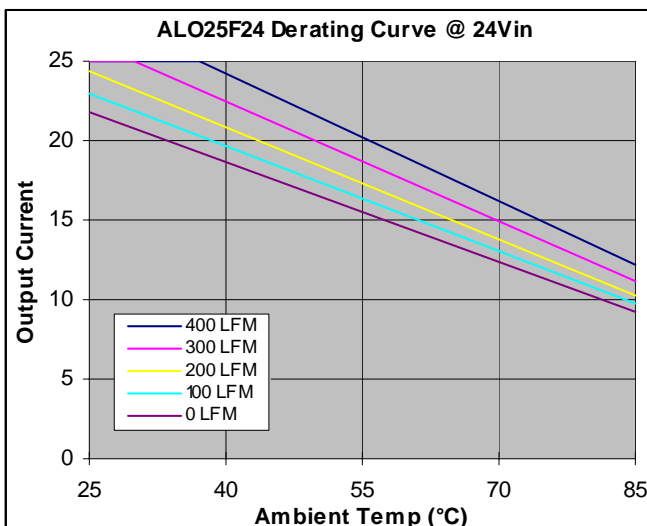

Figure 11. Output Current vs. Temperature at $V_{IN}=24\text{V}$,
4. Output power derating applies at elevated temperature. Refer to Figure 11.